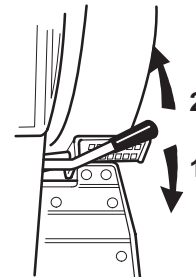

Figure 29
2. Push the power take off (PTO) to “ON” (Fig. 29).
2. Pull the power take off (PTO) to “OFF” (Fig.29).